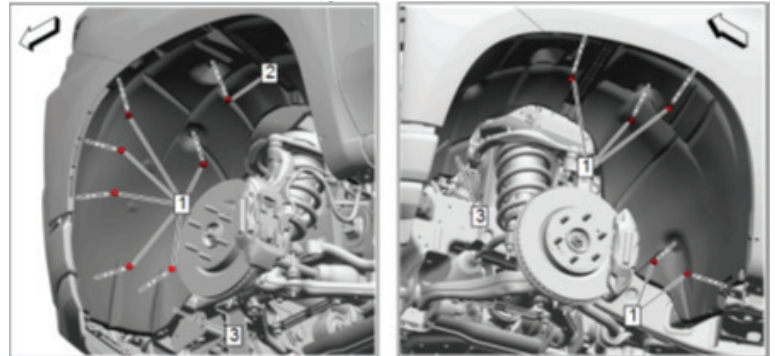

Figure 3
9. Remove the eleven (11) wheel well liner bolts. (Figure 3, #1)
10. Remove retainer from the wheel well liner. (Figure 3, #2)
11. Remove the wheel well liner on both sides of the vehicle and set aside for future reinstallation. (Figure 3, #3)